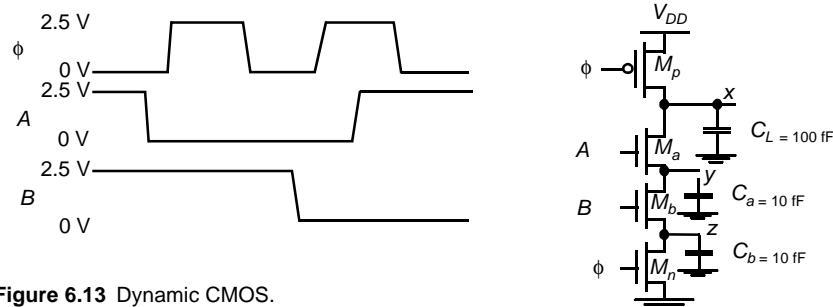

Figure 6.13 Dynamic CMOS.
19. [M, None, 4.3] Sketch the waveforms at x, y, and z for the given inputs (Figure 6.13). You may approximate the time scale, but be sure to compute the voltage levels. Assume that $V_T = 0.5$ V when body effect is a factor.